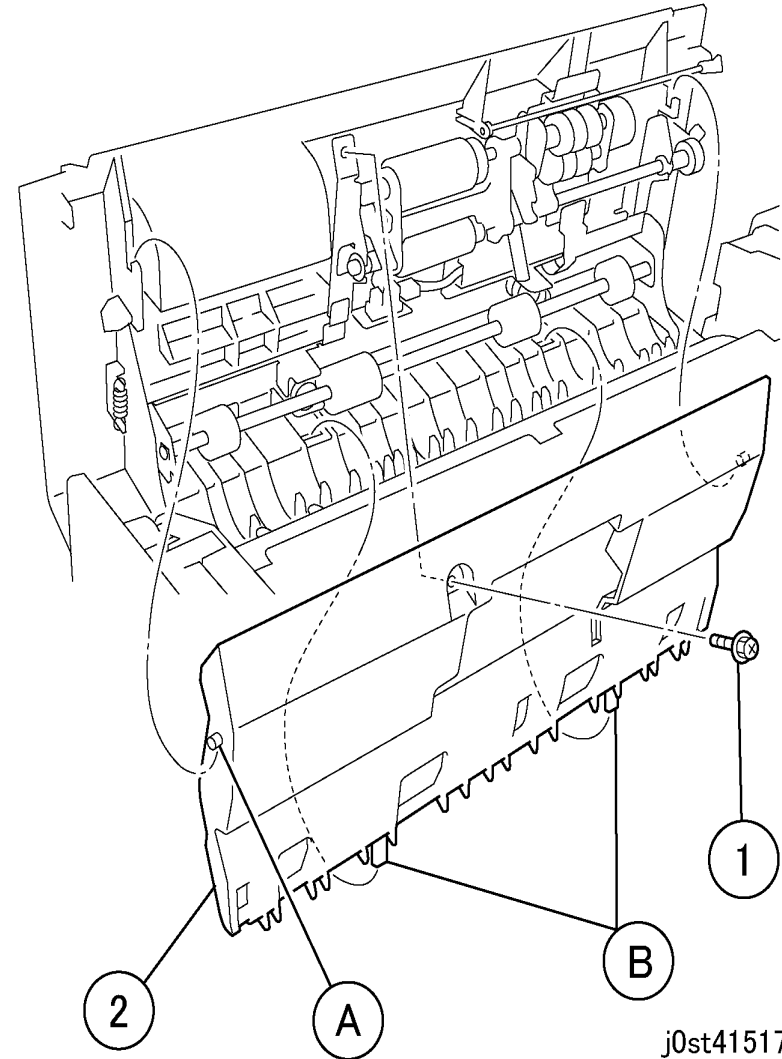

Figure 1 Removing the Feed Upper Chute (j0st41517)
3. Remove the Feed Upper Chute. (Figure 1)